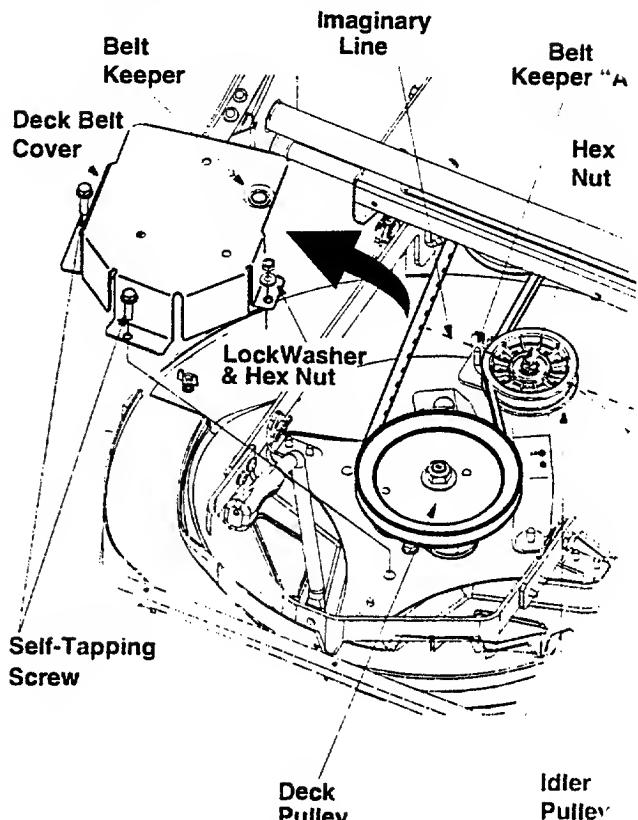

Figure 23
- Using a 9/16" wrench, loosen the hex nut on the idler pulley. See Figure 23.
- Place the new belt around the deck pulley and the engine pulley making sure that the belt is routed inside the belt keepers. There are two belt keepers under the grasscatcher, one on the idler and the other under the deck belt cover. See Figure 23 .
- Make sure to align the belt keeper in line with the frame. See Figure 23.
belt from around the idler and then the transmission pulley. See Figure 23.